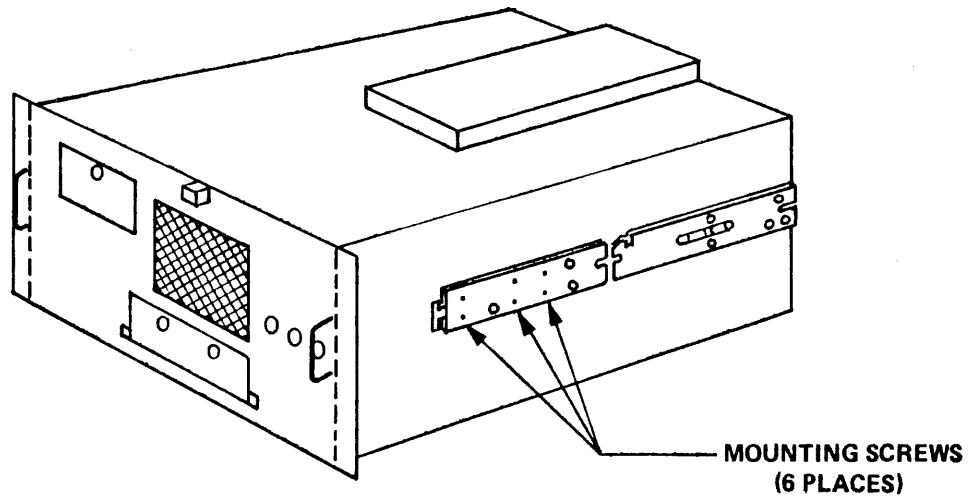

Figure 6-7. Installation of Chassis Sections
- d. Install the slide chassis sections on the logic supply - 1 as shown in figure 6-7. Use six each # 10-32 x 5/8" flat head screws, # 10 lock washers and # 10-32 nuts for each.